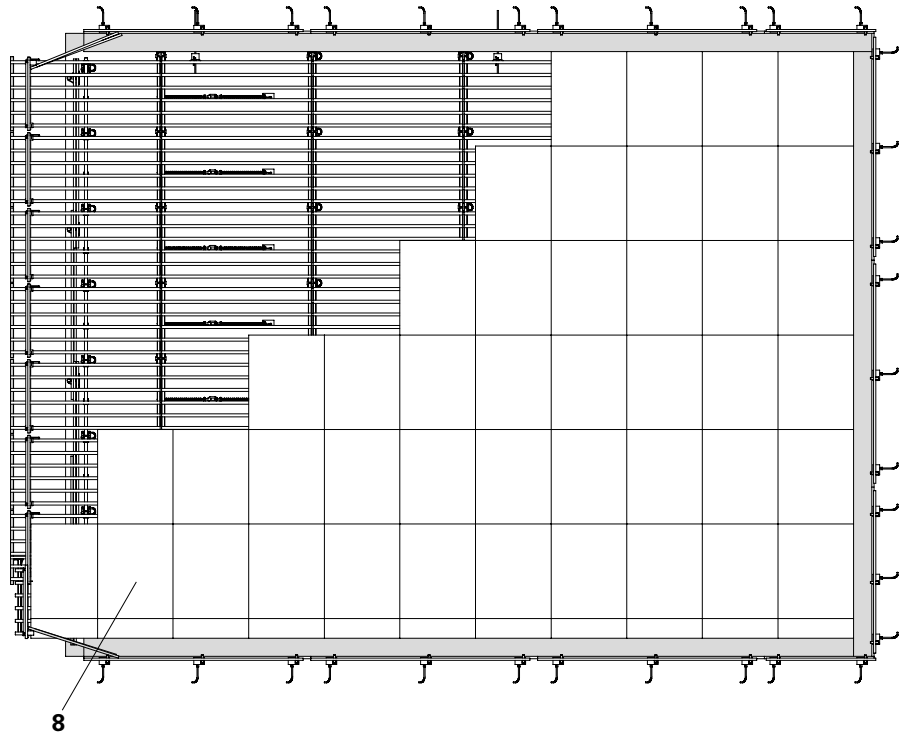

Fig. A8.01
- Always lay the formwork panels (8) perpendicular to the standard element (makes striking easier).
- Always lay them in rows, including infill areas. (Fig. A8.01)